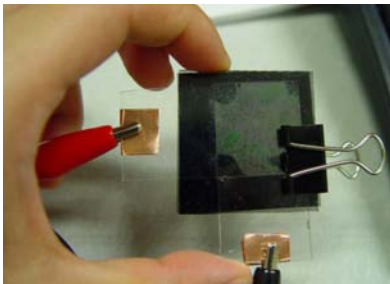

Figure 13: Attaching copper tape to electrodes.
**Step (5)** Wrap copper tape around the two ITO electrodes. ( You may want to scratch the PVA layer to expose the ITO underneath.) Complete your LCD pixel by contacting the two ITO electrodes with alligator clips to the waveform generator (see Figure 13).